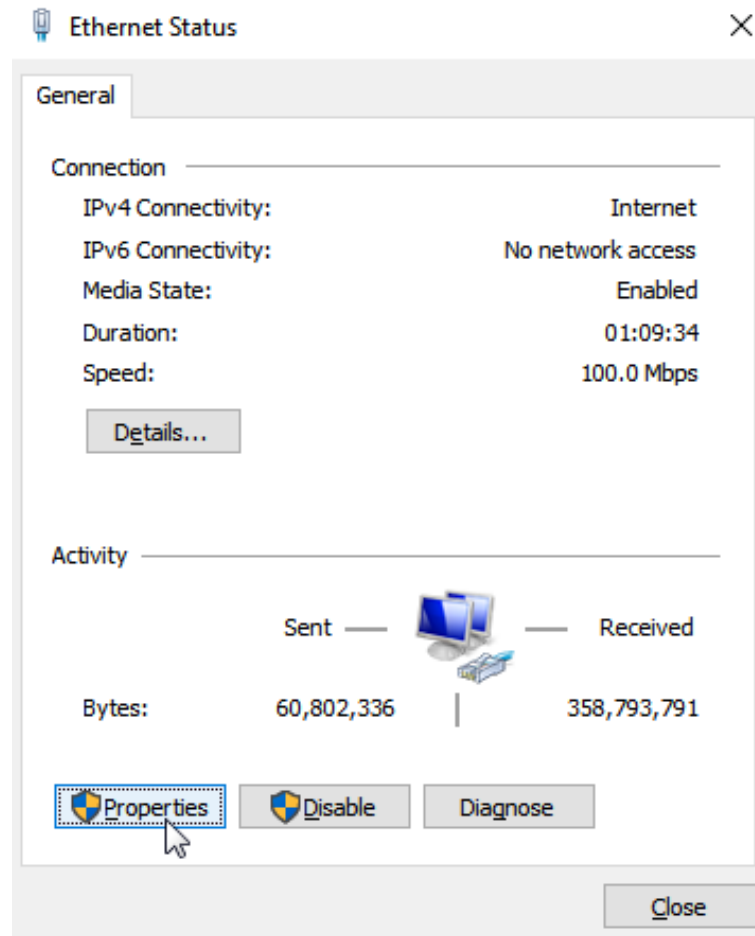

Figure A.5: Changin ethernet properties
Step 5 Click on the "Properties" button (Figure A.5).